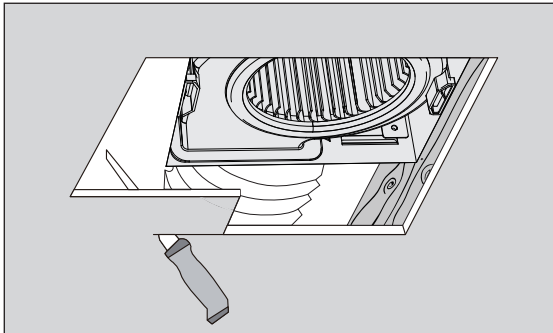

Fig 18
1. Enlarge ceiling opening (if necessary) to 9" (parallel to duct direction) by 9.8" (perpendicular to duct direction). (Fig 18)